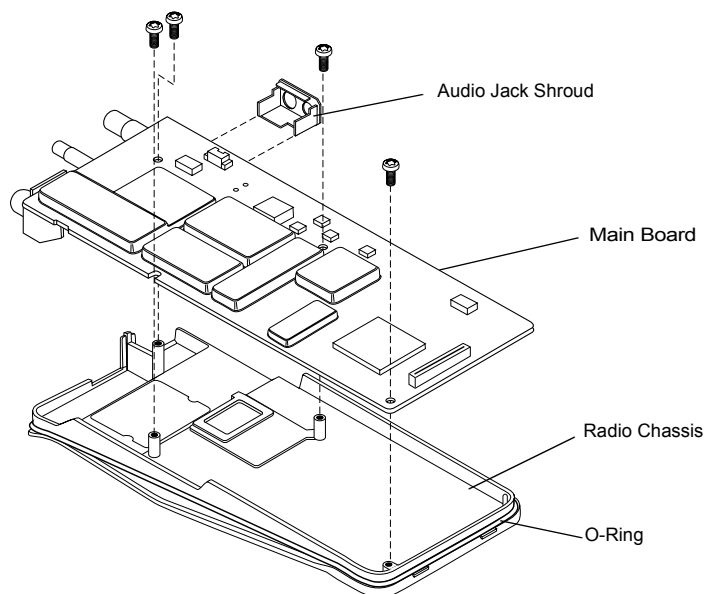

Figure 8-8. Removal of Main Board from Chassis
2. Use a Torx™ screwdriver with a T6 bit to remove the four screws (Figure 8-8) holding the main board to the chassis.